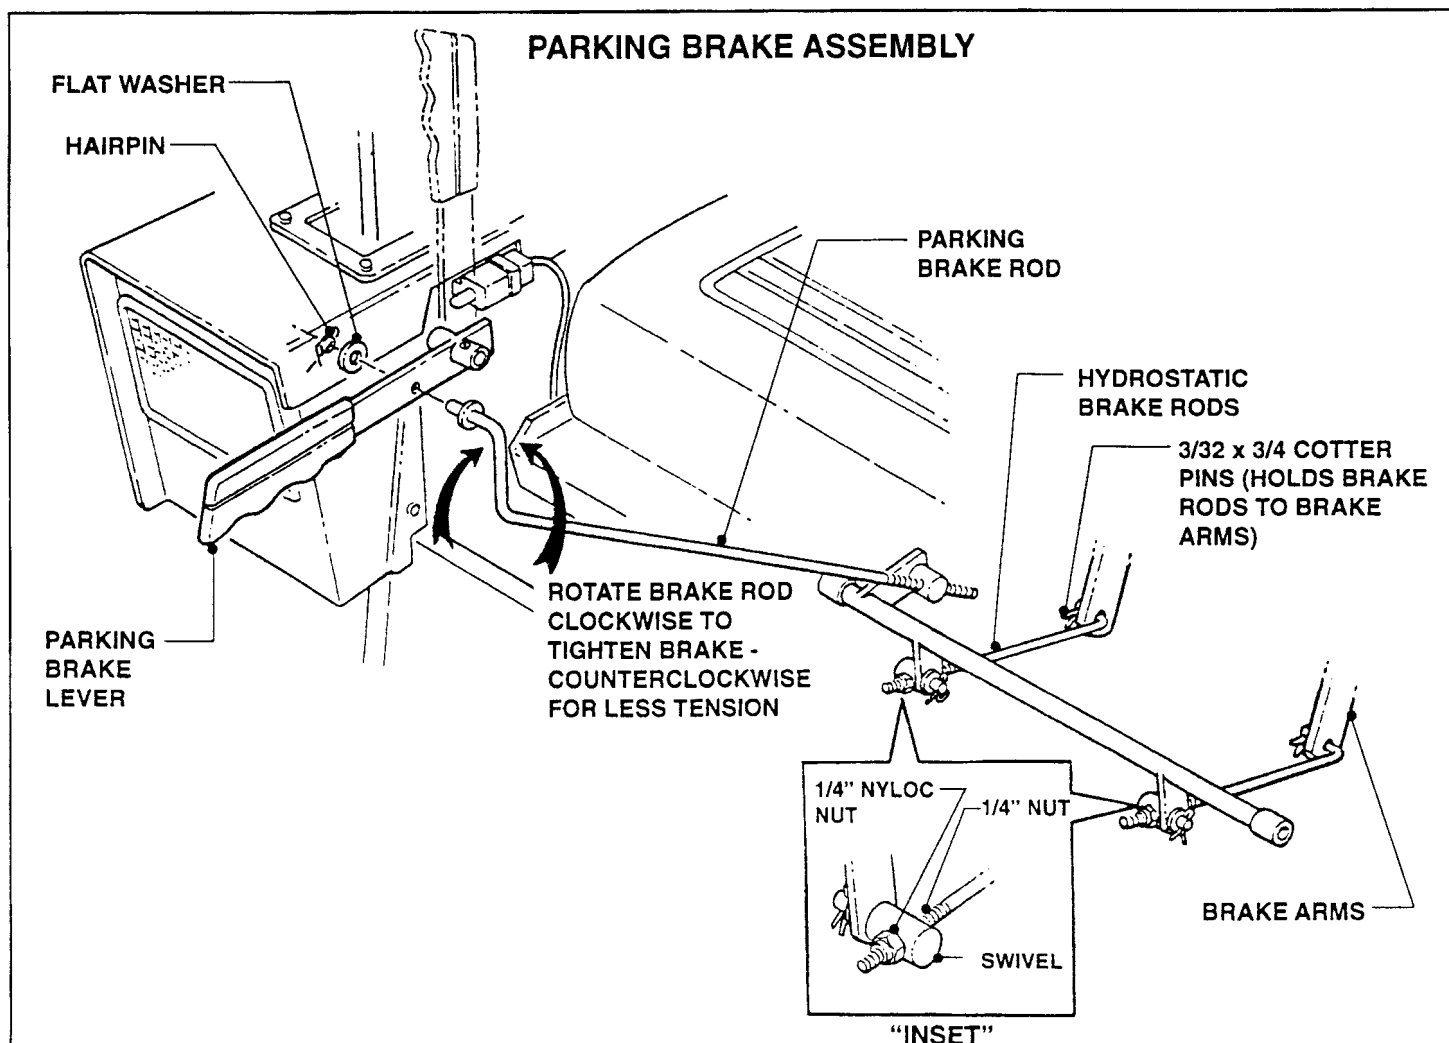

FIGURE 5.6
- Disconnect Parking Brake Rod from Park Brake Lever. See Figure 5.6.
- Rotate Rod clockwise one (1) turn to tighten Brake or counterclockwise to loosen Brake tension.
- Rotate nut 1/2 turn clockwise to tighten Brake. (See "Inset", Figure 5.6).
- Disconnect the Hydrostatic Brake Rod by removing the 3/32 x 3/4" Cotter Pin from the 1/4" Swivel. Refer to Figure 5.6, Pg. 5.4.
- G. Disconnect the Hydrostatic Brake Rod by removing the 3/32 x 3/4 Cotter Pin from the Brake Arm. Refer to Figure 5.6.